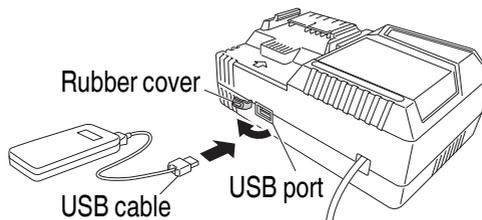

Fig. 30
- (2) Connect the USB cable. (Fig. 30)